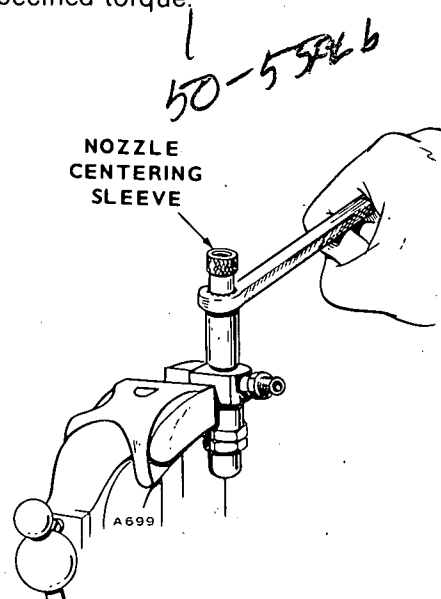

FIGURE 18. TIGHTENING NOZZLE CAP NUT
5. Place the centering sleeve over the nozzle (Figure 18) for initial tightening. Then remove the centering sleeve to prevent it from binding between nozzle and cap nut and tighten the nozzle cap nut to specified torque.